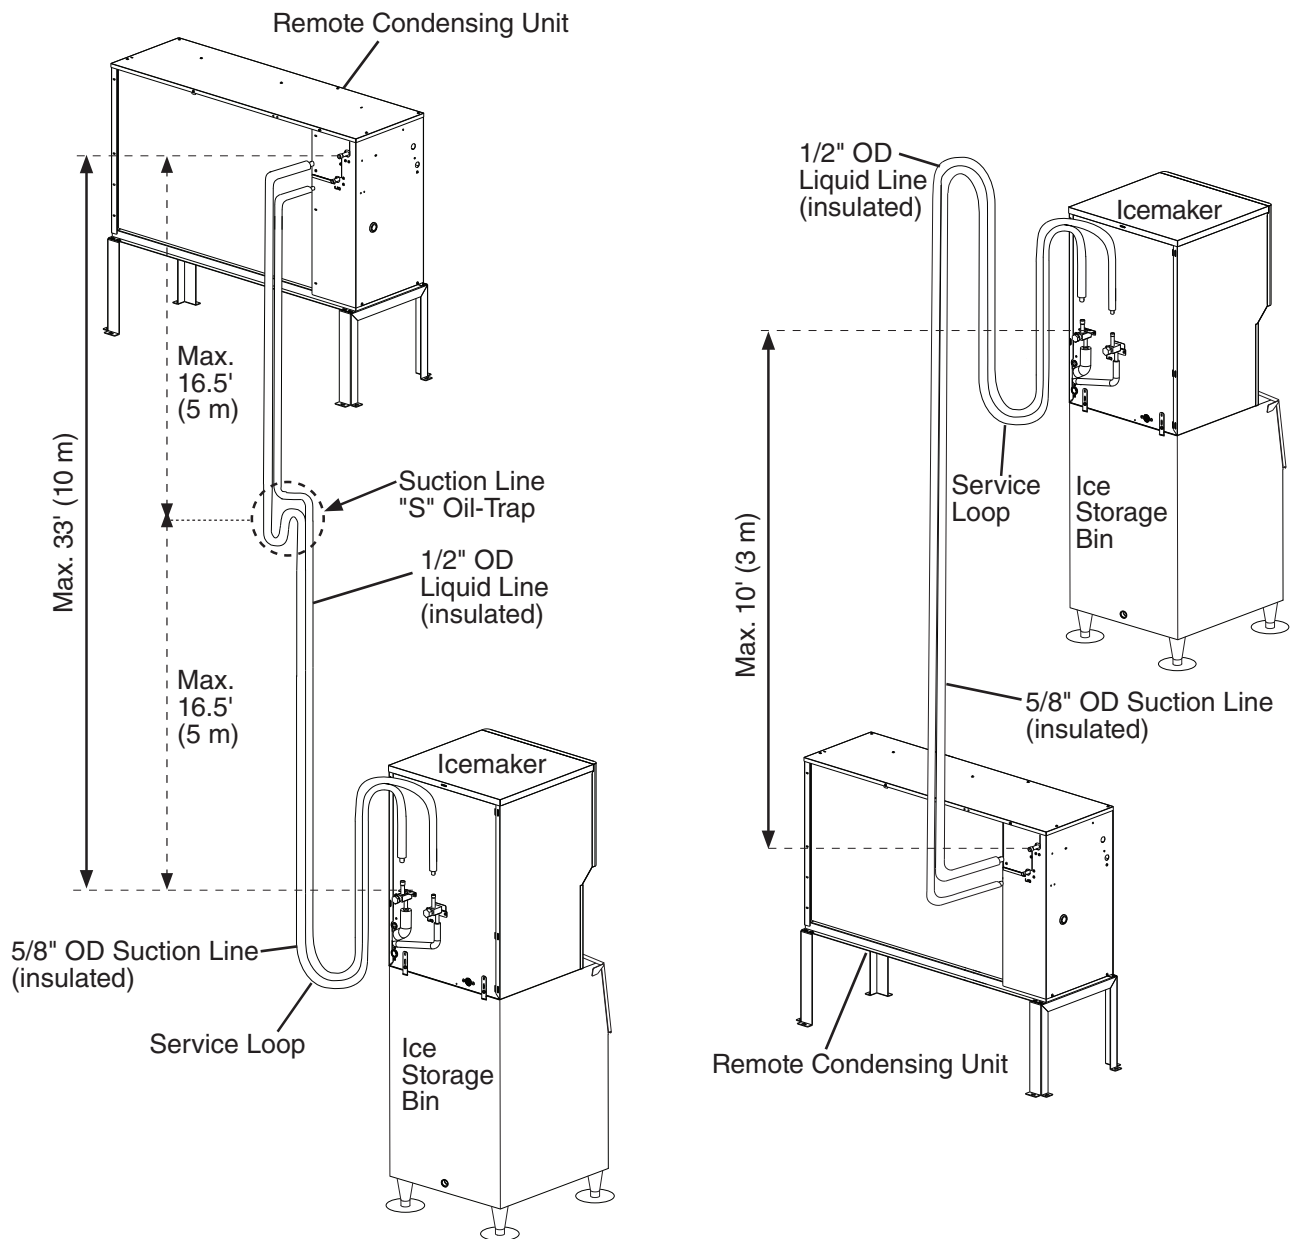

Fig. 8
- The maximum vertical distance between the remote condensing unit and icemaker is 33 feet above or 10 feet below the icemaker. These distances are measured fitting to fitting. See Fig. 8. **NOTICE! Do not exceed maximum vertical distance.**
- 1) Route the factory line set or appropriate size copper tubing. When field fabricating, insulate the copper tubes separately. Leave a service loop behind the icemaker to allow the icemaker to be pulled out for service. See Fig. 8. Note: The service loop is not considered an oil trap.